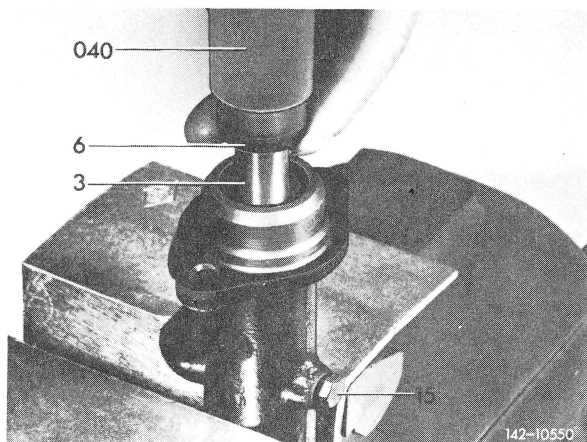

Fig. 16
25 Change clamped position of tandem master cylinder in such a manner that the piston shaft is pointing upwards. Tighten stop screw (15) to specified torque (Fig. 16).
28 Adjust sleeve and assembly sleeve in such a manner that the end of the sleeve (041) is in alignment with the inner edge of the smaller diameter of the assembly sleeve (040). Coat one vacuum seal with silicone grease and place on shaft of piston with sealing lip facing piston, hold in position and insert assembly sleeve (040) with inserted sleeve (041) over sleeve up to stop (Fig. 16 and 17).